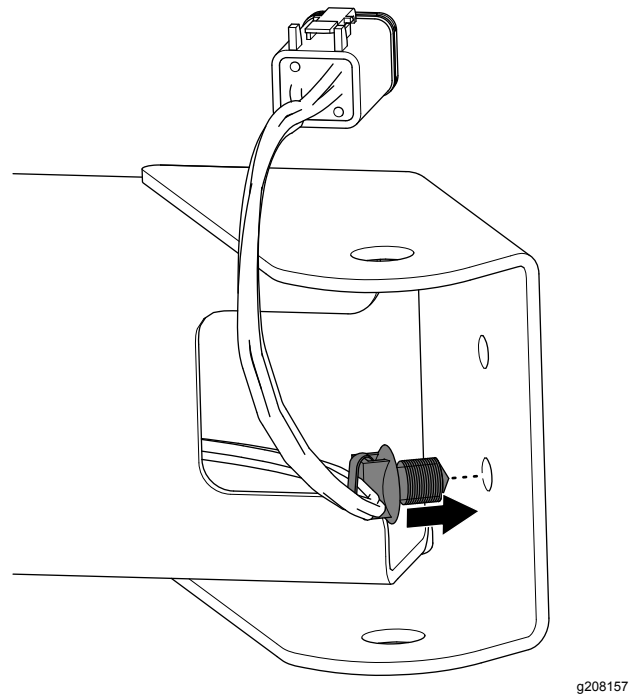

Figure 12
6. Insert the push-in fastener of the wire harness into the hole in the end of the worklight mount as shown in Figure 12.